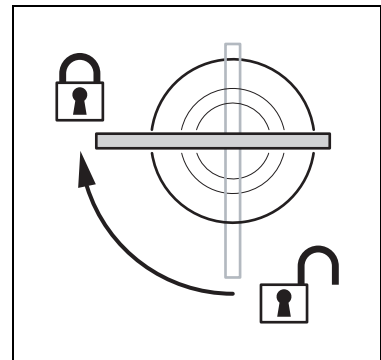

Figure 2: Locking a quarter-turn fastener
2. Install a rigging clamp on the supplied omega bracket, then fasten the omega bracket to the fixture using the quarter-turn mounting points on the rear panel (see Figure 1 on page 6). Ensure that quarter-turn fasteners are turned a full 90° clockwise to lock them (see Figure 2).